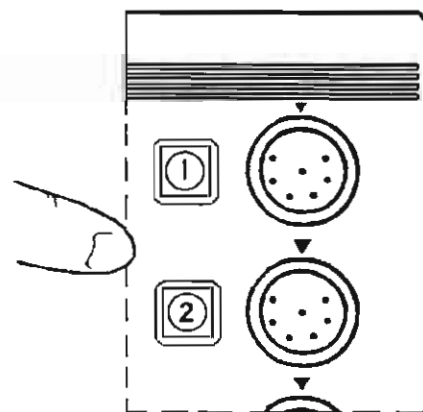

Figure 2-13. Handpiece selection.
d. Depress either the handpiece **1** or the handpiece **2** selector switch, if illuminated. (Refer to fig 2-13.)